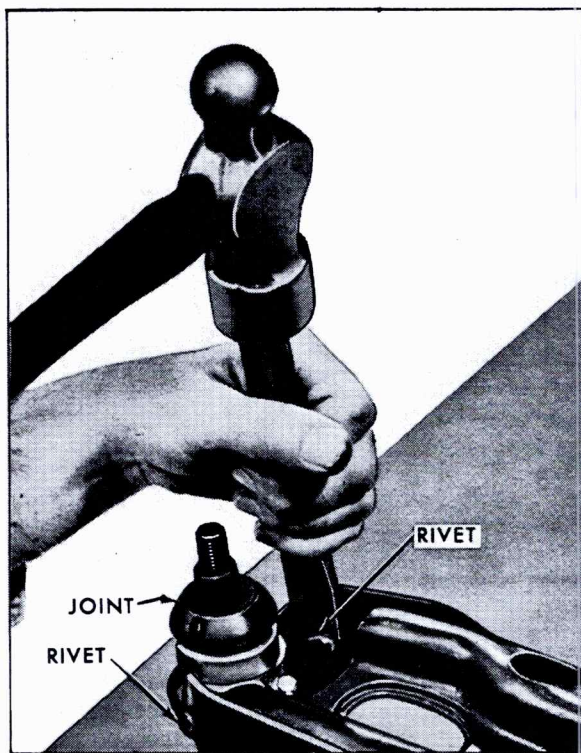

Fig. 3-51 Removing Lower Spherical Joint Rivets
3. Using a chisel, cut two rivet heads off as shown in Fig. 3-51.